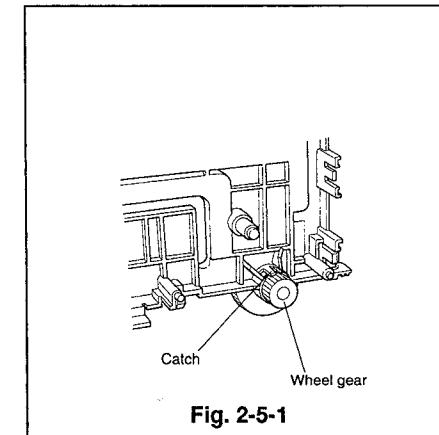

Fig. 2-5-1
- ③ Unfasten the catch shown in Fig. 2-5-1 to remove the wheel gear.
- ① Install the wheel gear in the position shown in Fig. 2-5-1, from the inside of the cassette housing.
- ② Install the sens gear and side plate.